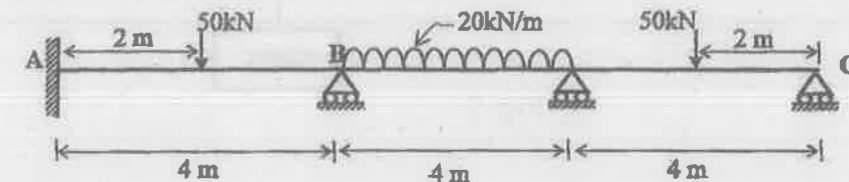

Fig. 5
15. Analyse the continuous beam shown in Fig.5 using Kani's method and draw the bending moment diagram. EI constant.